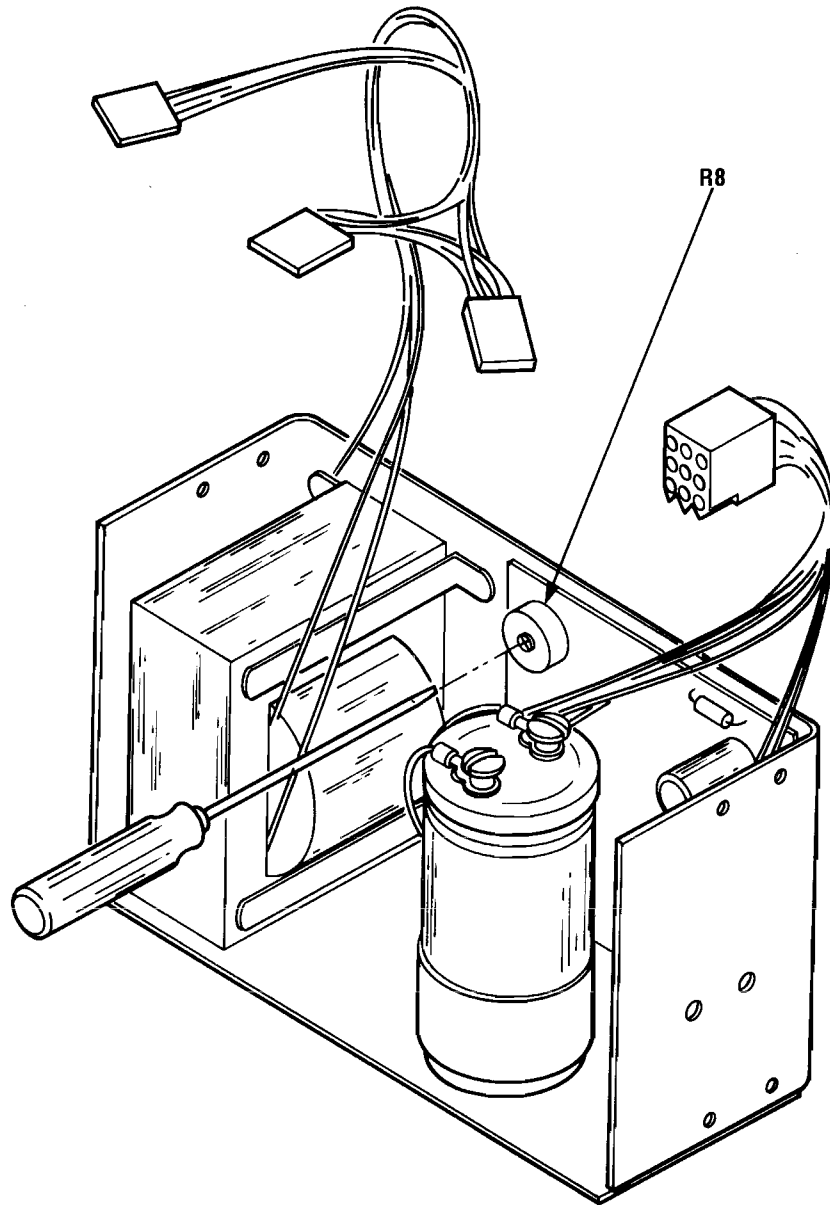

Figure 2. Power Supply (Including Harness)
2. *Adjust potentiometer R8 (Fig. 2) on power supply for +5.0 VDC as measured on the LOGIC PCB. The positive (+) lead of the voltmeter must be touching the large metal area (trace) on the non-component side of the LOGIC PCB which is connected to pins 2 and 5 of the 6-pin connector. The negative (-) lead of the voltmeter must be touching the large metal area (trace) on the component side of the LOGIC PCB, which is connected to pins 1 and 6 of the 6-pin connector.*